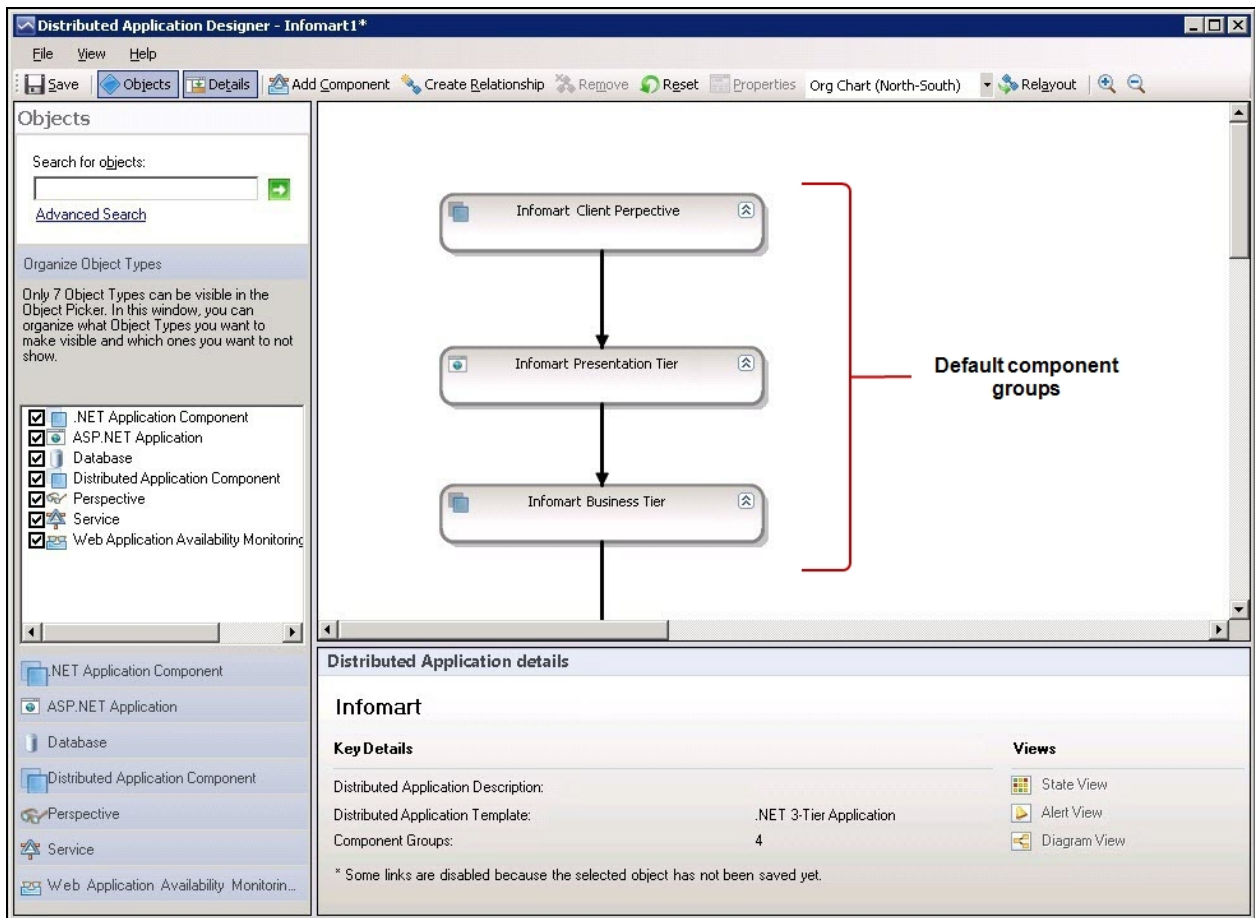

Figure 4.27: The Distributed Application Designer
- In the **Name Your Distributed Application** section of Figure 4.26, provide a unique Name to your distributed application – for easy identification, its best to name the distributed application after the business service it corresponds to. In the case of our example therefore, set *Infomart* as the **Name** of the distributed application. Next, select the **.NET 3-Tier Application** option from the **Template** list in the **Choose Distributed Application Template** section, and pick the **eG Customization Management Pack** option from the **Management Pack** drop-down in the **Save to a Management Pack** section. Finally, click the **OK** button in Figure 4.26. This will invoke the **Distributed Application Designer** window (see Figure 4.27).